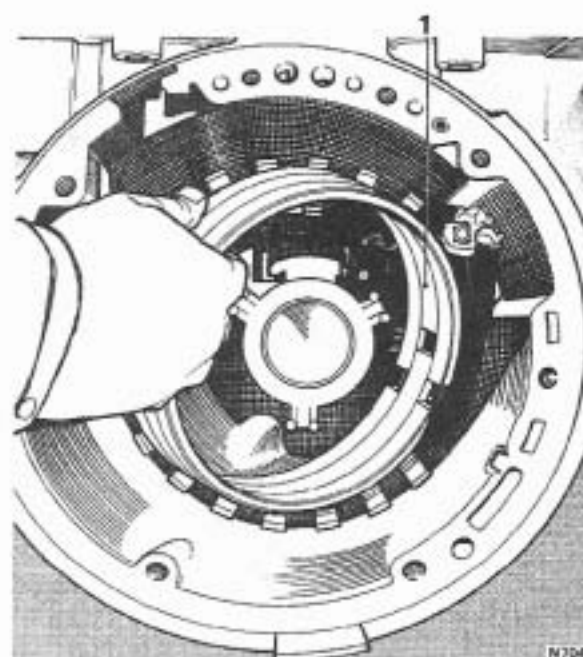

FIG. T286 FITTING THE REAR BAND
1. Fit the rear band assembly into the transmission case so that the band lugs engage with the anchor pins (see Fig. T286).